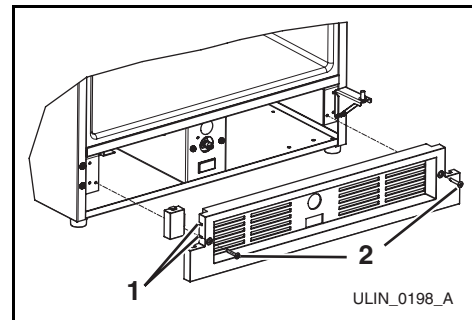

Figure 13
6. Make sure grille cap is behind grille in slots provided in grille (Figure 13, 1) before attaching grille to unit, and secure but do not overtighten both grille screws (Figure 13, 2).